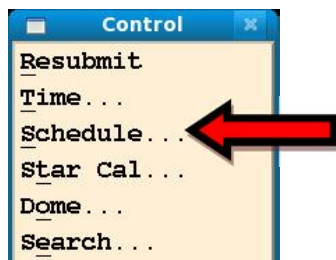

Figure 4-2: The top portion of the Control Menu
- a. Go to the Control menu and select Schedule (Figure 4-2).